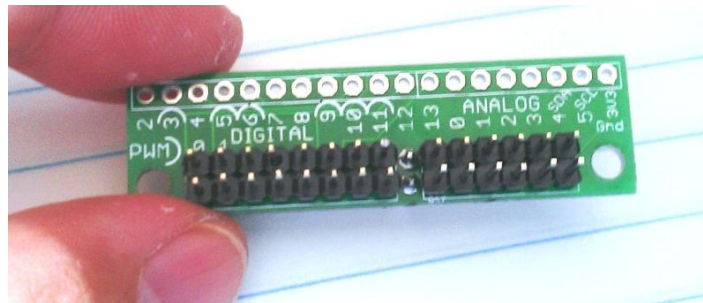

Fig. 4-2. Solder the 28 pins for the ribbon cable, all facing up. See the 2 pins are facing down.
- 2) Solder the 28 pins for the ribbon cable, all facing up, see fig. 4-2